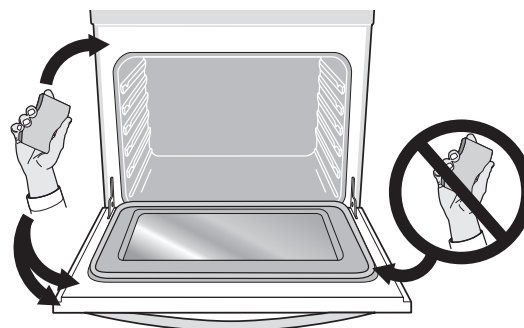

Figure 22: Areas of oven door to clean with caution
- Do not clean the oven door gasket (Figure 22). Do not use any cleaning materials on the oven door gasket. Doing so may damage the gasket. The woven material of the oven door is essential for a good seal. Care should be taken not to rub, damage or remove the door gasket.